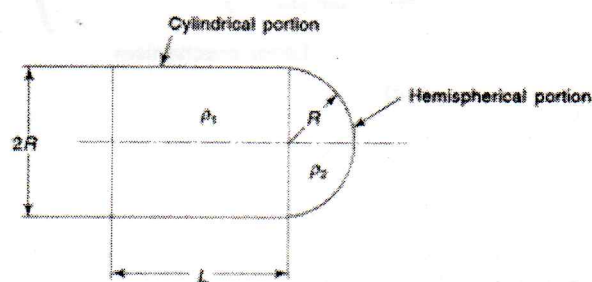

Figure 2
- iii. Various dimensions and densities of the object shown in figure 2 are;